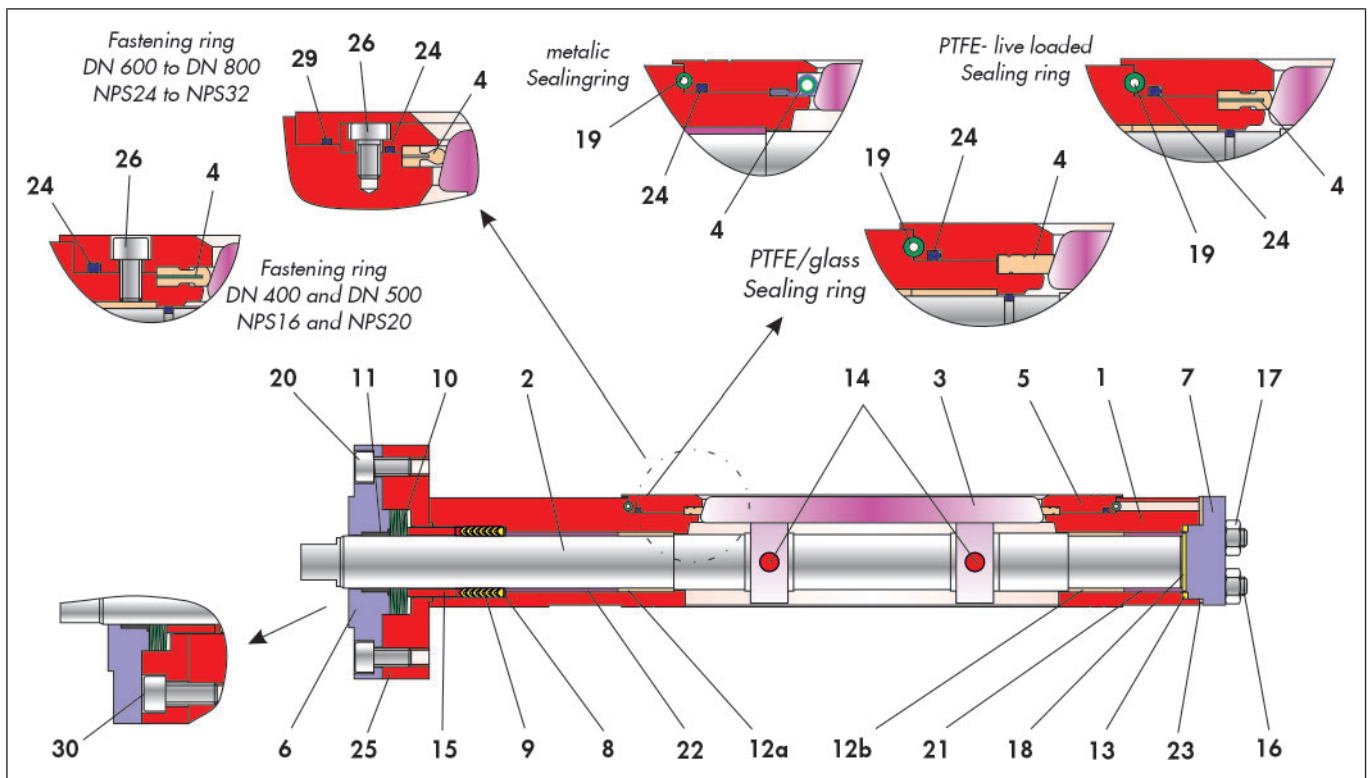

Figure 3-4: Sectional drawing of the BR 14c butterfly valve with spring washer preloaded V-ring packing
- ⇒ Insert the preassembled bonnet into the bearing bore in the valve body (1) and adjust with the stud bolts.
- ⇒ Tighten the bonnet (7) with the nuts (17) evenly and in a criss-cross pattern.
- ⇒ Push the thrust washer (8) over the free shaft end into position in the valve body.
- ⇒ Push the PTFE V-ring packing (9) over the shaft into the body bore and press in with an assembly sleeve. Refer to the sectional drawing Figure 3-4 for the arrangement of the V-ring packing.
- ⇒ Place the intermediate flange (25) on the body and adjust with screws (30).
- ⇒ Tighten the screws (30) evenly in a criss-cross pattern.
- ⇒ Push the thrust piece (15) over the switching valve and press it into position in the body.
- ⇒ Insert the set of spring washers (10). Refer to the sectional drawing Figure 3-4 for the arrangement of the spring washers.
- ⇒ Press the bearing bushing (11) into the stuffing box (6).
- ⇒ Fit the preassembled stuffing box smoothly over the intermediate flange and adjust with screws (20).
- ⇒ Tighten the screws (20) evenly in a criss-cross pattern.
- ⇒ Adjust the dihedral of the switching shaft (2) parallel to the valve disc and secure it against further twisting.